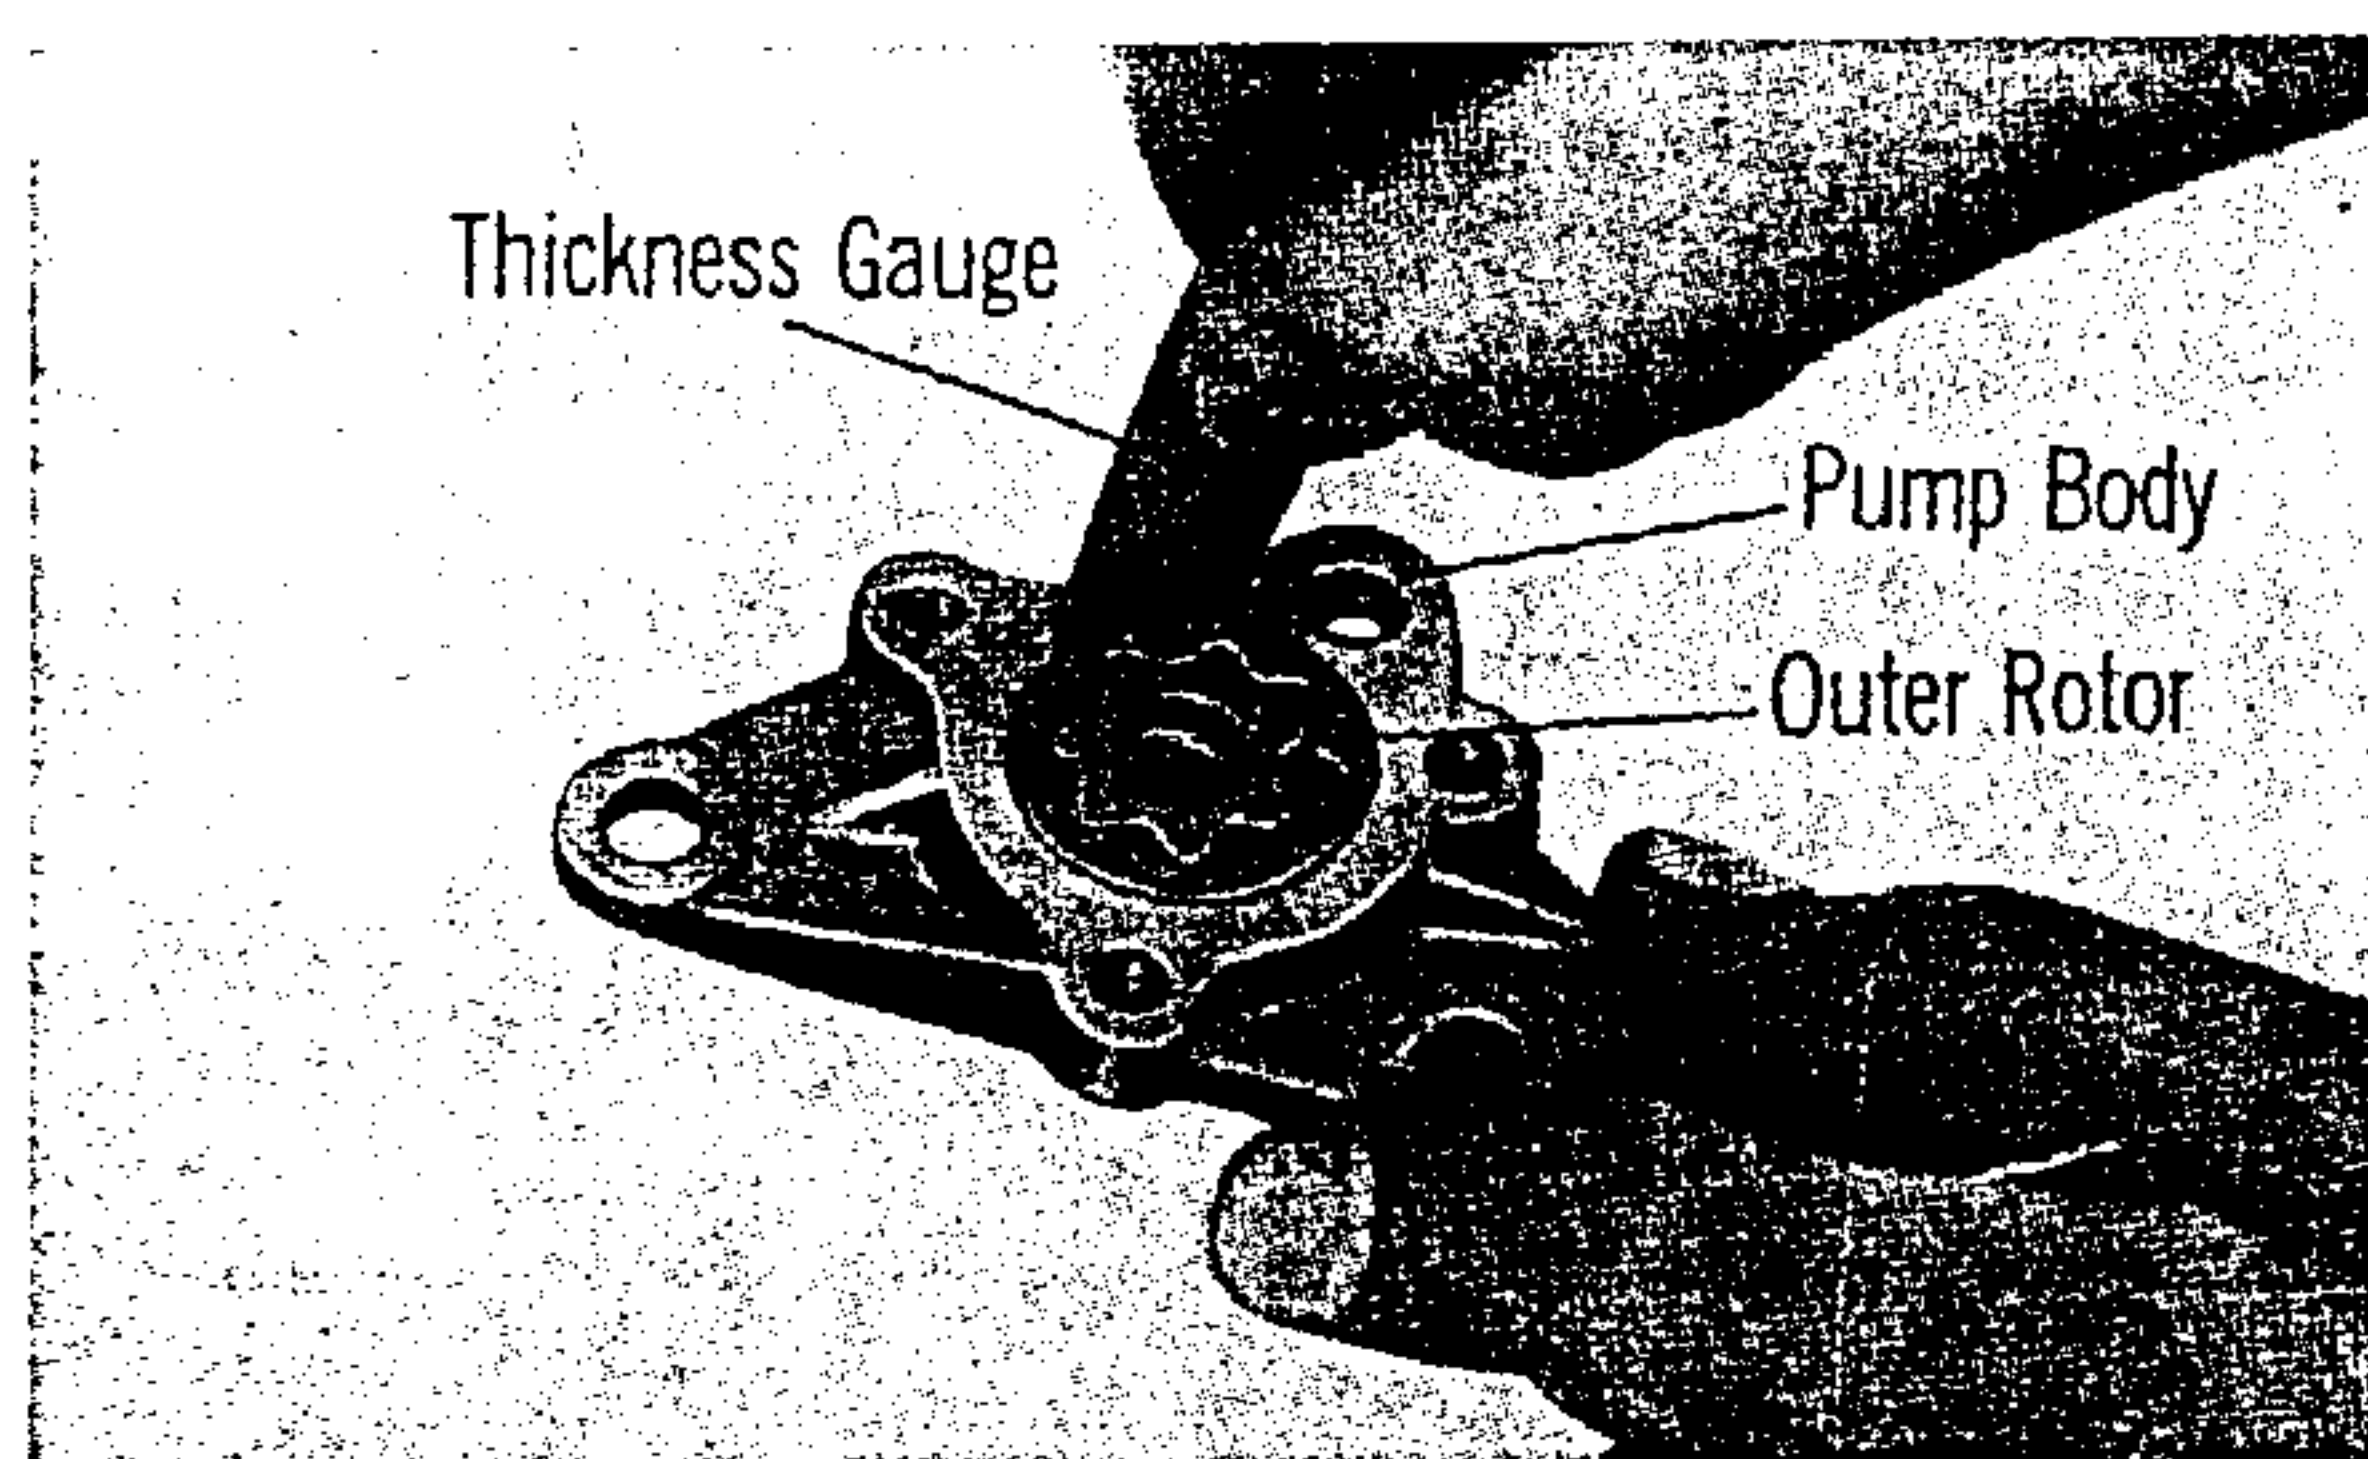

Fig. 10
2. Measuring the clearance between the outer rotor and the pump body. Insert the thickness gauge between the outer rotor and the pump body (Fig. 10).